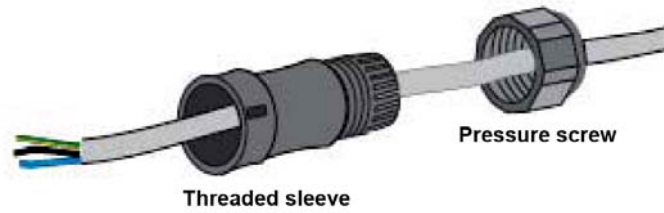

Figure 14
Step1:Put the threaded sleeve and pressure screw through the AC wire (See figure 14).